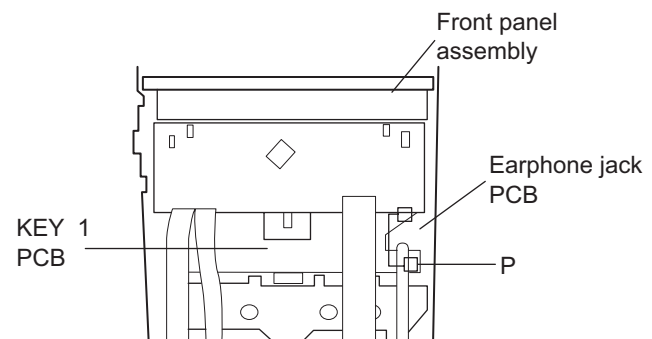
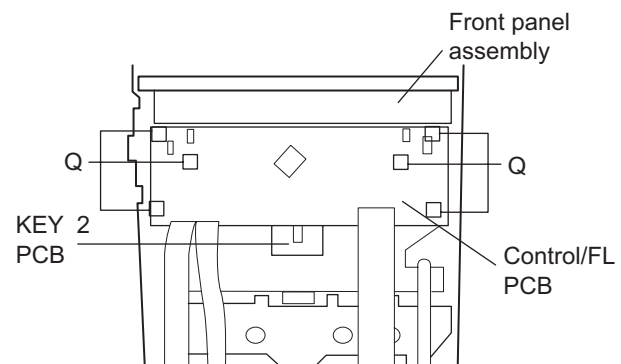

Fig.20
Fig.21
3.1.13 Removing the earphone jack board (See Fig.20)
3.1.14 Removing the control/FL board (See Fig.21)
3.1.15 Removing the switch board and sound mode and CD function switch board (See Fig.20 to 23)
- (2) Remove six screws **Q** retaining the front panel assembly.(Fig.21)
- (3) Remove the control/FL board.
- (4) Remove eleven screws **R** retaining the switch (key 1) board.(Fig.20)
- (5) Remove two screws **S** retaining the sound mode and CD function (key 2) switch board.(Fig.21)